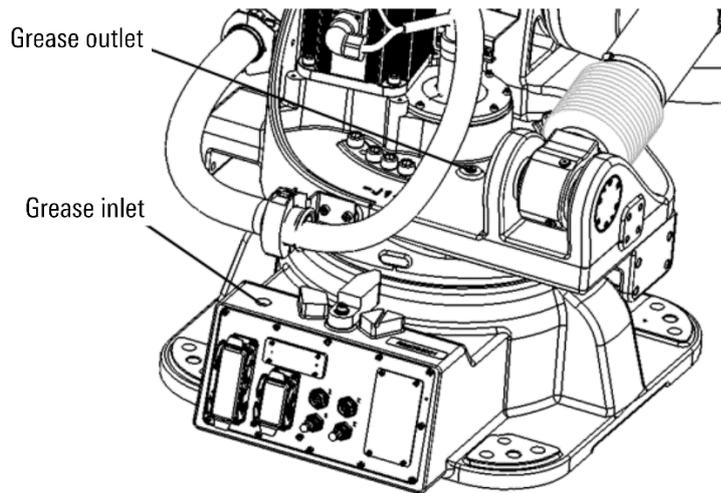

Figure 12-8 Replace J1 axis reducer grease
- Step4. Remove the M10x1 plug of the grease outlet, as shown in Figure 12-8.